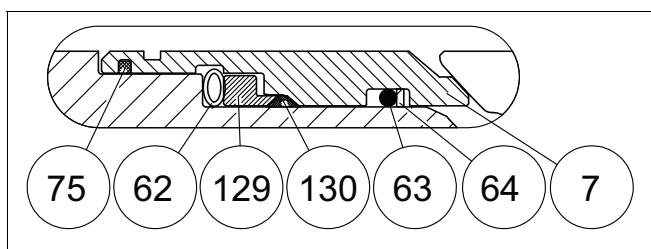

Fig. 12 B seat
- Place the back seal (O-ring) (63) into the groove in the seat. See Figure 12.
- Place the back-up rings (64) made of PTFE strips at the side of the O-ring. To ensure that the seam becomes flexible, the strip must have slanted ends.
- For easier assembly, lubricate the O-ring and back-up ring surfaces facing the seats with silicone grease or another suitable substance. Please ensure the compatibility with the flow medium. Place the backseal (130) and ring (129) on the seat.
- Place the spring (62) on the seat (7). Connect the ends of the spring. NPS06 has 2pcs spring (62) separated with spacer ring (62A).
- Place the braided graphite (75) into the groove in the seat.